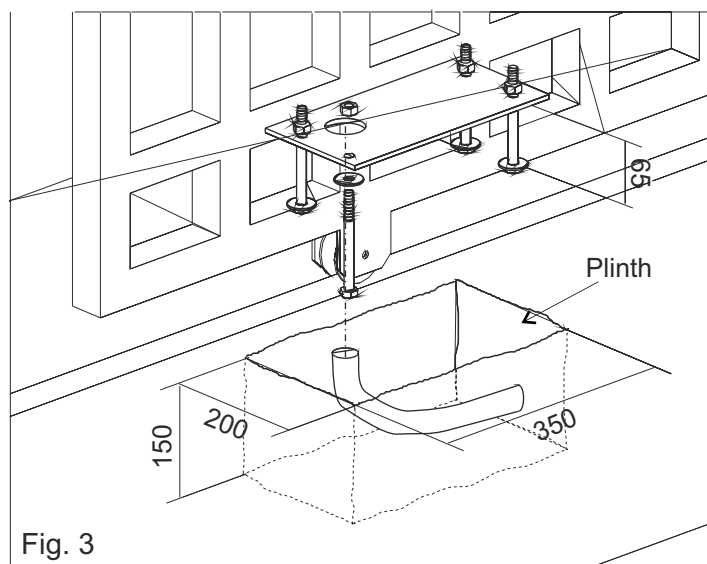

Fig. 3
1. Have a mounting plate manufactured to the dimensions shown in Fig. 3. The plate will require to have concrete holding into which the foundation plate and the anchor bolts will be walled up.